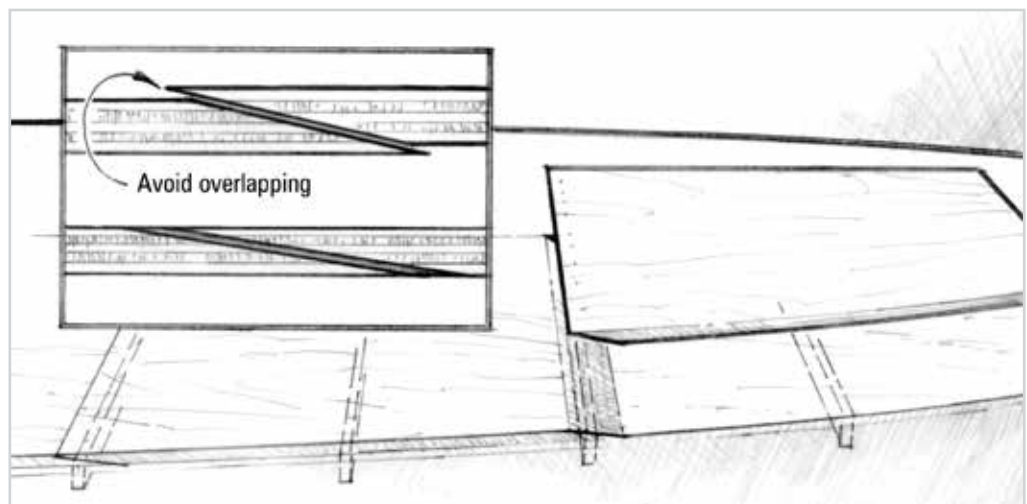

Figure 5-14 Plan the panel layout so that scarf joints will fall over beams for better clamping.
1. Prepare plywood panels, scarf joints and beam surfaces. Plan the panel layout and order of assembly so that the scarf on the following sheet lies over the scarf on the previous sheet (Figure 5-14).